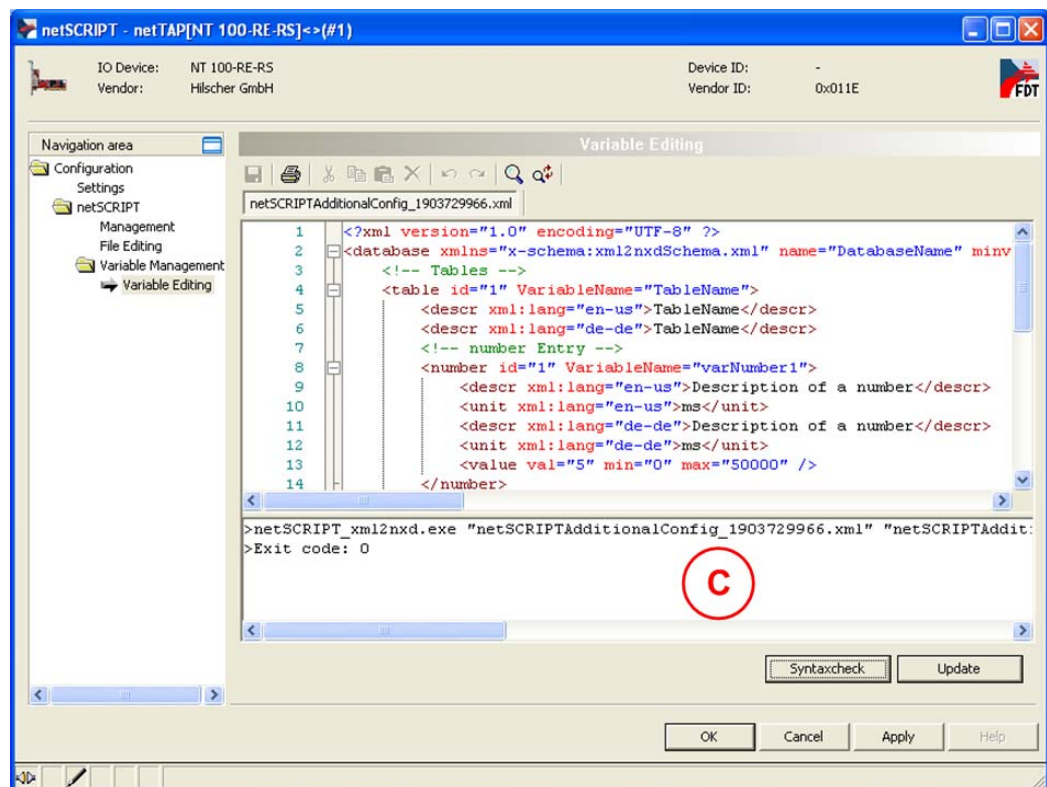

Figure 8: Definition Configurable Variables compiled
(2) In this line, the file name of the variable file is displayed which can be edited in the window pane **(A)**.
- ③ In this line, tools are offered to edit the XML file.
- ④ With this button, a syntax check of the XML file can be started. If the syntax check is not successful, then in window pane ③ suitable error messages are displayed (see Figure 8).
- ⑤ With this button, the contents of the window pane ② are compiled and the contents in the window pane ① are updated. If the compilation is not successful, window pane ③ opens with suitable error messages (see Figure 8).
- ⑥ With this button, the entries of this window are saved. Afterwards, the window is closed.
- ⑦ With this button, you exit the window without saving.
- ⑧ With this button, the data are saved. The window remains open.
- ⑨ With this button, you reach the help to this window.
- ⑩ In this column, coherent blocks can be minimized or expanded, by a click on the "-" or "+" signs.